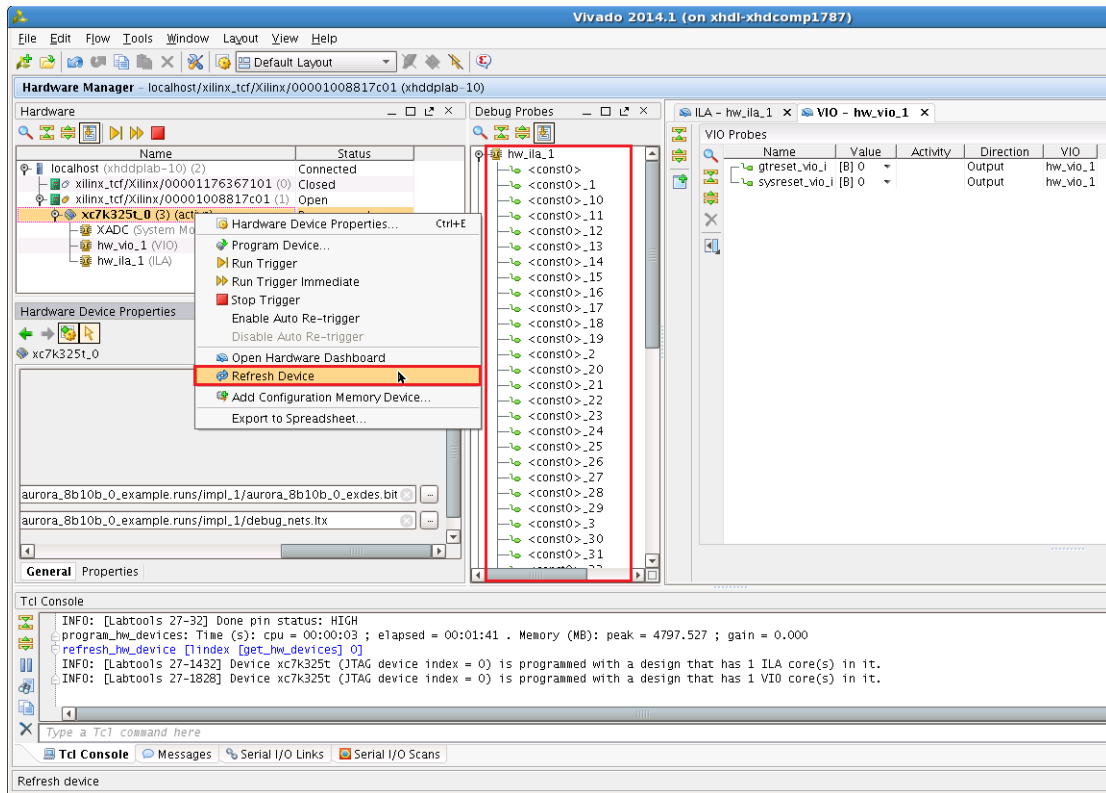

Figure 26: Refresh Device
13. When programming completes, right-click the programmed target device in the Hardware list and select **Refresh Device** (Figure 26).